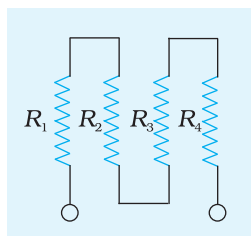

Fig. E 1.4
- Four resistances R_1 , R_2 , R_3 and R_4 are connected together as shown in Fig. E 1.4. Complete the electric circuit by connecting the combination of resistances to a 6 V source, an ammeter and a voltmeter. Explain, how would you measure current/voltage flowing through each one of the resistors.